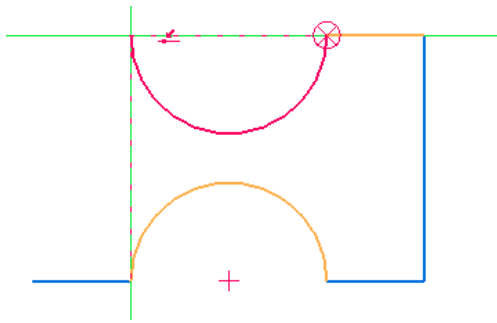

Figure 2-50 Horizontal and vertical dotted lines displayed to define the endpoint of the arc
15. Move the cursor once over the lower arc and then move it toward the left, in line with the upper right horizontal line from where this arc starts. On doing so, a horizontal dotted line originating from the upper right horizontal line is displayed. At the point where the cursor is vertically in line with the start point of the lower arc, a vertical dotted line appears from the start point of the lower arc, as shown in Figure 2-50.